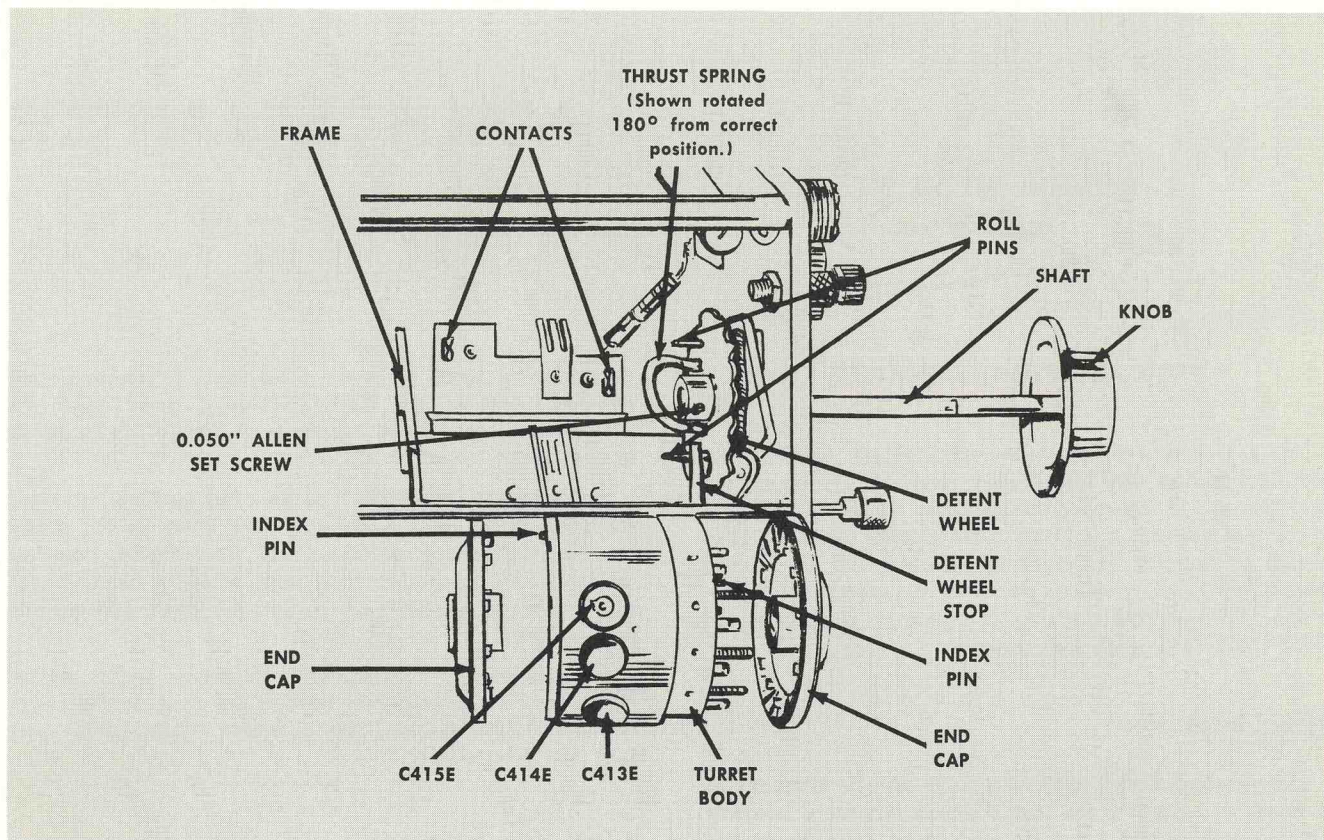

Fig. 4-1. B VOLTS/CM turret attenuator removed from the Z Unit.
1. To remove the turret, loosen the 0.050" allen set screw (see Fig. 4-1). Grasp the knob and pull it outward far enough to let the shaft free the turret. Do not pull the shaft too far out or it will not hold the detent wheel in position.
5. Slide the turret into the frame. Make sure the contacts (indicated in Fig. 4-1) are aligned with the contacts on the turret.